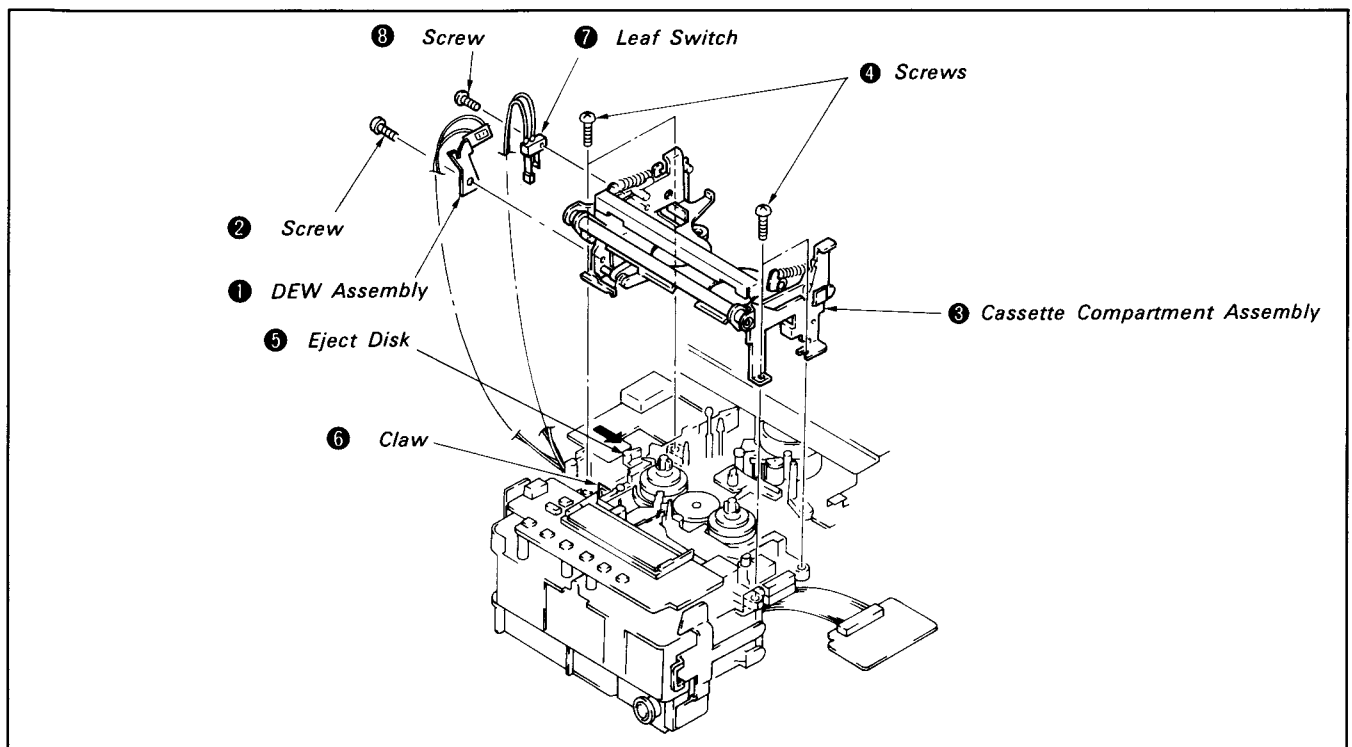

Fig. 8-1a.
8-1-1. Remounting of Cassette Compartment Assembly (See Fig. 8-1a)
- 1) Remount DEW assembly ① with screw ②.
- 2) Remount cassette compartment assembly ③ and tighten four screws ④ by referring to Figs. 8-1a and 1b.